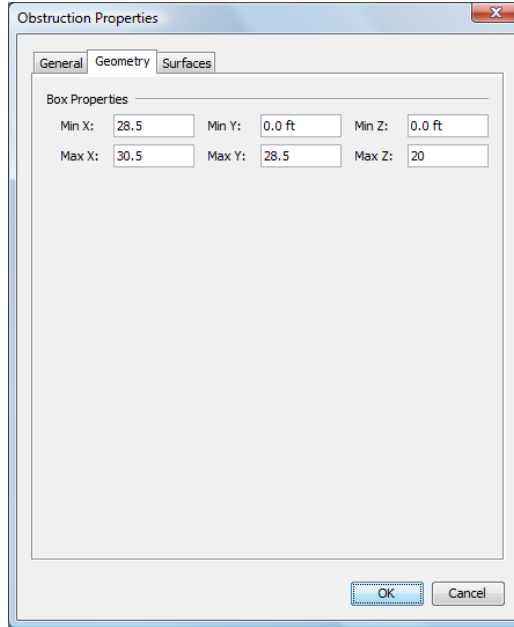

Figure 7.9. Input for the wall dividing the two rooms
4. Click on the **Geometry** tab. In the **Bounding Box** boxes, enter the values listed in Table 7.8 and shown in Figure 7.9.